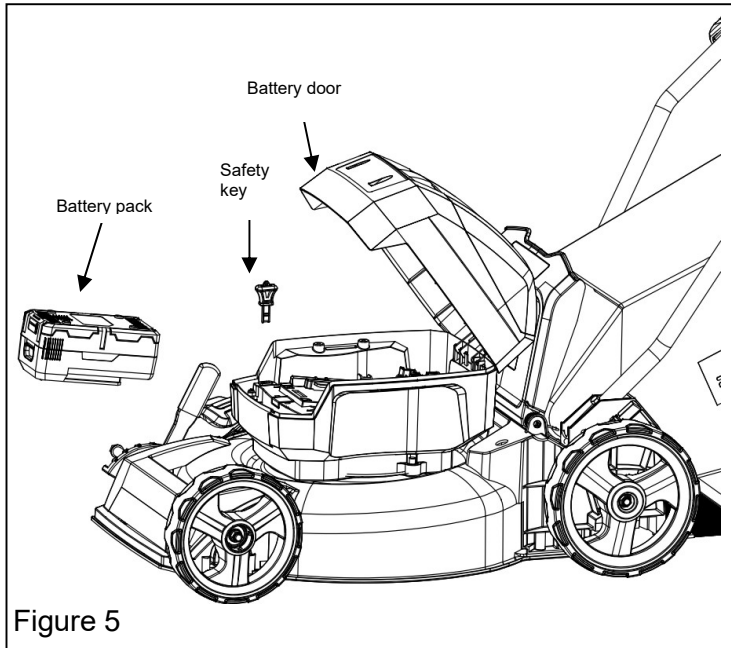

Figure 5
**TO INSTALL BATTERY PACK** (See Figure 5)
**TO REMOVE BATTERY PACK** (See Figure 5)